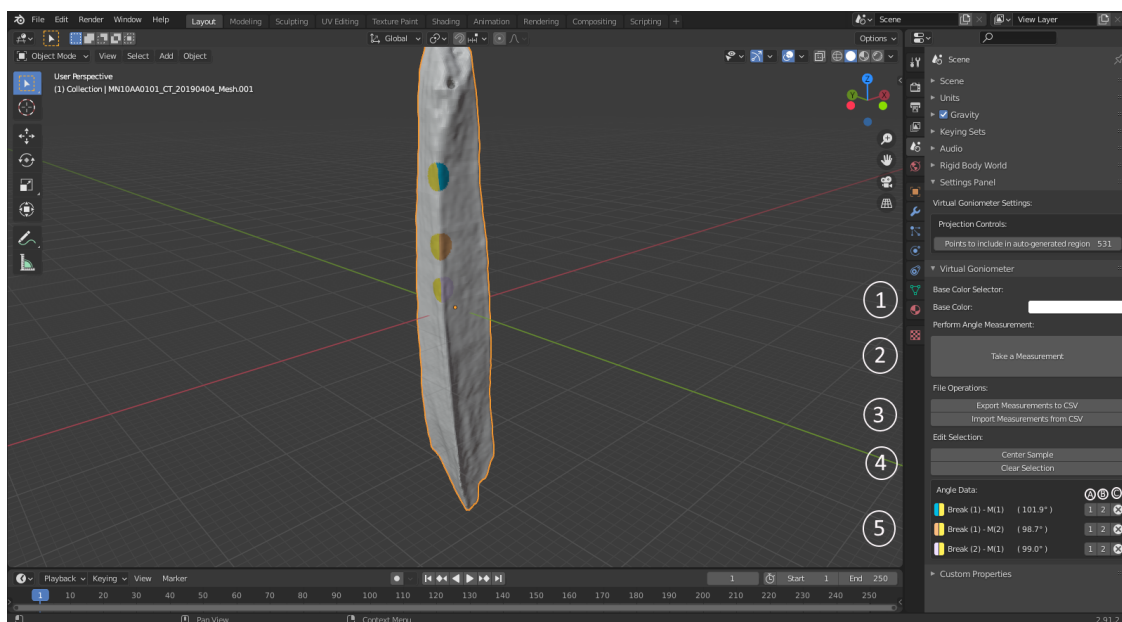

Figure 1: Virtual Goniometer.
To run the Virtual Goniometer the user must first import and select a mesh to make measurements on. This can be done using the included Blender importer located in File -> Import. To begin taking measurements, the user must navigate to the "Virtual Goniometer" panel located in the Properties -> Scene window as seen in Figure 1. To take a measurement, the user must click the "Take a Measurement" button seen near (2). Once the button has been clicked, the measurement routine will begin. Each time the measurement routine is begun the specific instance will be assigned its own "Break Number" sequentially. To select a location to be used as the center of a measurement, Left-Click on the desired area and the measurement will be saved to the "Angle Data" field near (5). To orbit around the object hold the Middle-Click button and move the mouse, to pan around the object hold both Middle-Click and shift and move the mouse. When the measurements have been completed, Right-Click to end the measurement routine.
The "Angle Data" section of the Virtual Goniometer shown near (5) in Figure 1 contains a row for each measurement made as well as buttons which allow for editing certain aspects of the measurements. From left to right these functions are.
The "Center Sample" and the "Clear Selection" buttons (as seen in Figure 1 near (4)) are both options which are included for the convenience of the user.